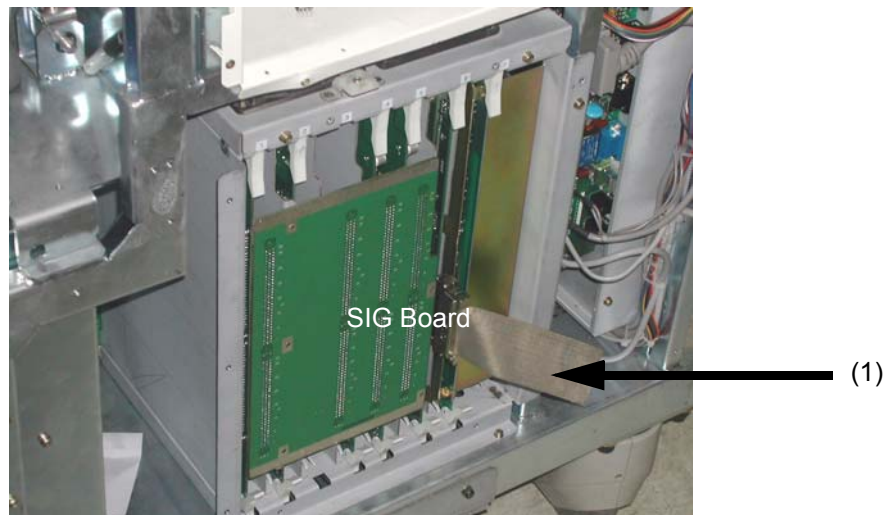

Figure 8-119 Disconnecting Cable
- 6.) Disconnect one connector (1) if removing the FEC Assy. Otherwise skip this step. Refer to Figure 8-119 on page 8-69 ..